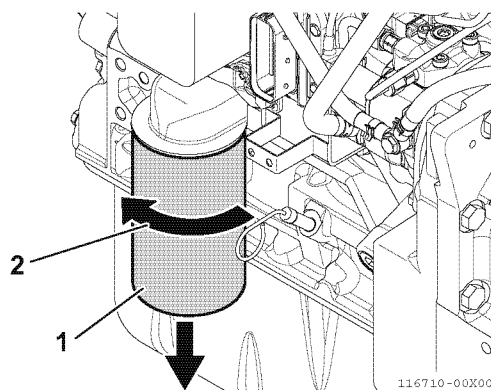

Fig.30-10
2. Turn the lubricating oil filter (1, Fig.30-10) counterclockwise (2, Fig.30-10) using a filter wrench to remove.